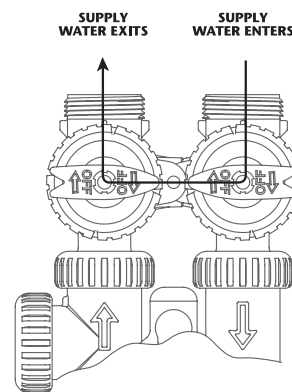

Figure 2
2. **Bypass Position:** The inlet and outlet handles point to the center of the bypass. The system is isolated from the water pressure in the plumbing system. Untreated water is supplied to the building (**Fig. 2**).
- After installation is complete, rotate bypass handles to bypass mode (**see Fig. 2 on page 2**).
1. With the softener in the bypass mode (**Fig. 2 on page 2**) and the control valve in normal operation where the display shows either the time of day or the gallons remaining: